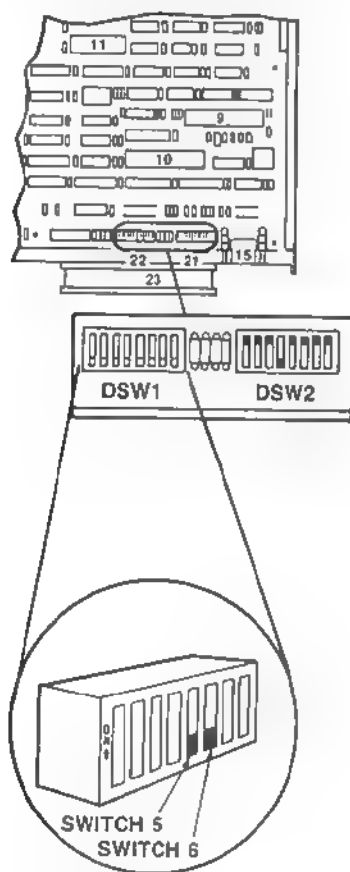

Figure F-2. Motherboard DIP Switches
7. Remove the bottom cover of the computer and locate the DIP switch DSW 1 on the motherboard. See Figure F-2 for the location.